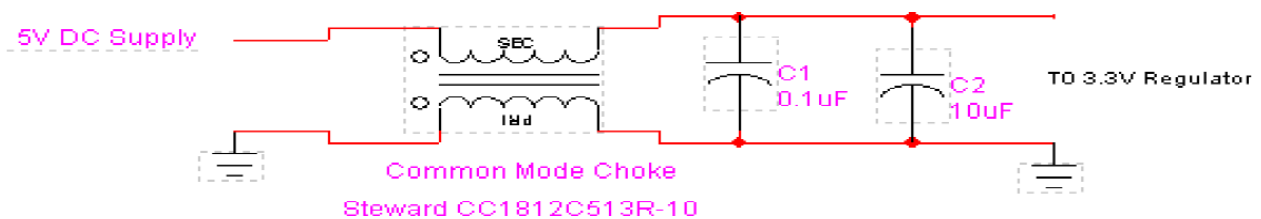

Figure 6-3: Common Mode Choke on PCB DC Input
- Common mode chokes may be added to the design at the point where DC power enters the PCB as shown below in Figure 6-3. This attenuates emissions that would otherwise be radiated from the system power cord. Common mode chokes will have some impedance at a given frequency. Choose the number of chokes and/or type of ferrite material to provide adequate attenuation at the frequencies in the system that may generate unwanted emissions.